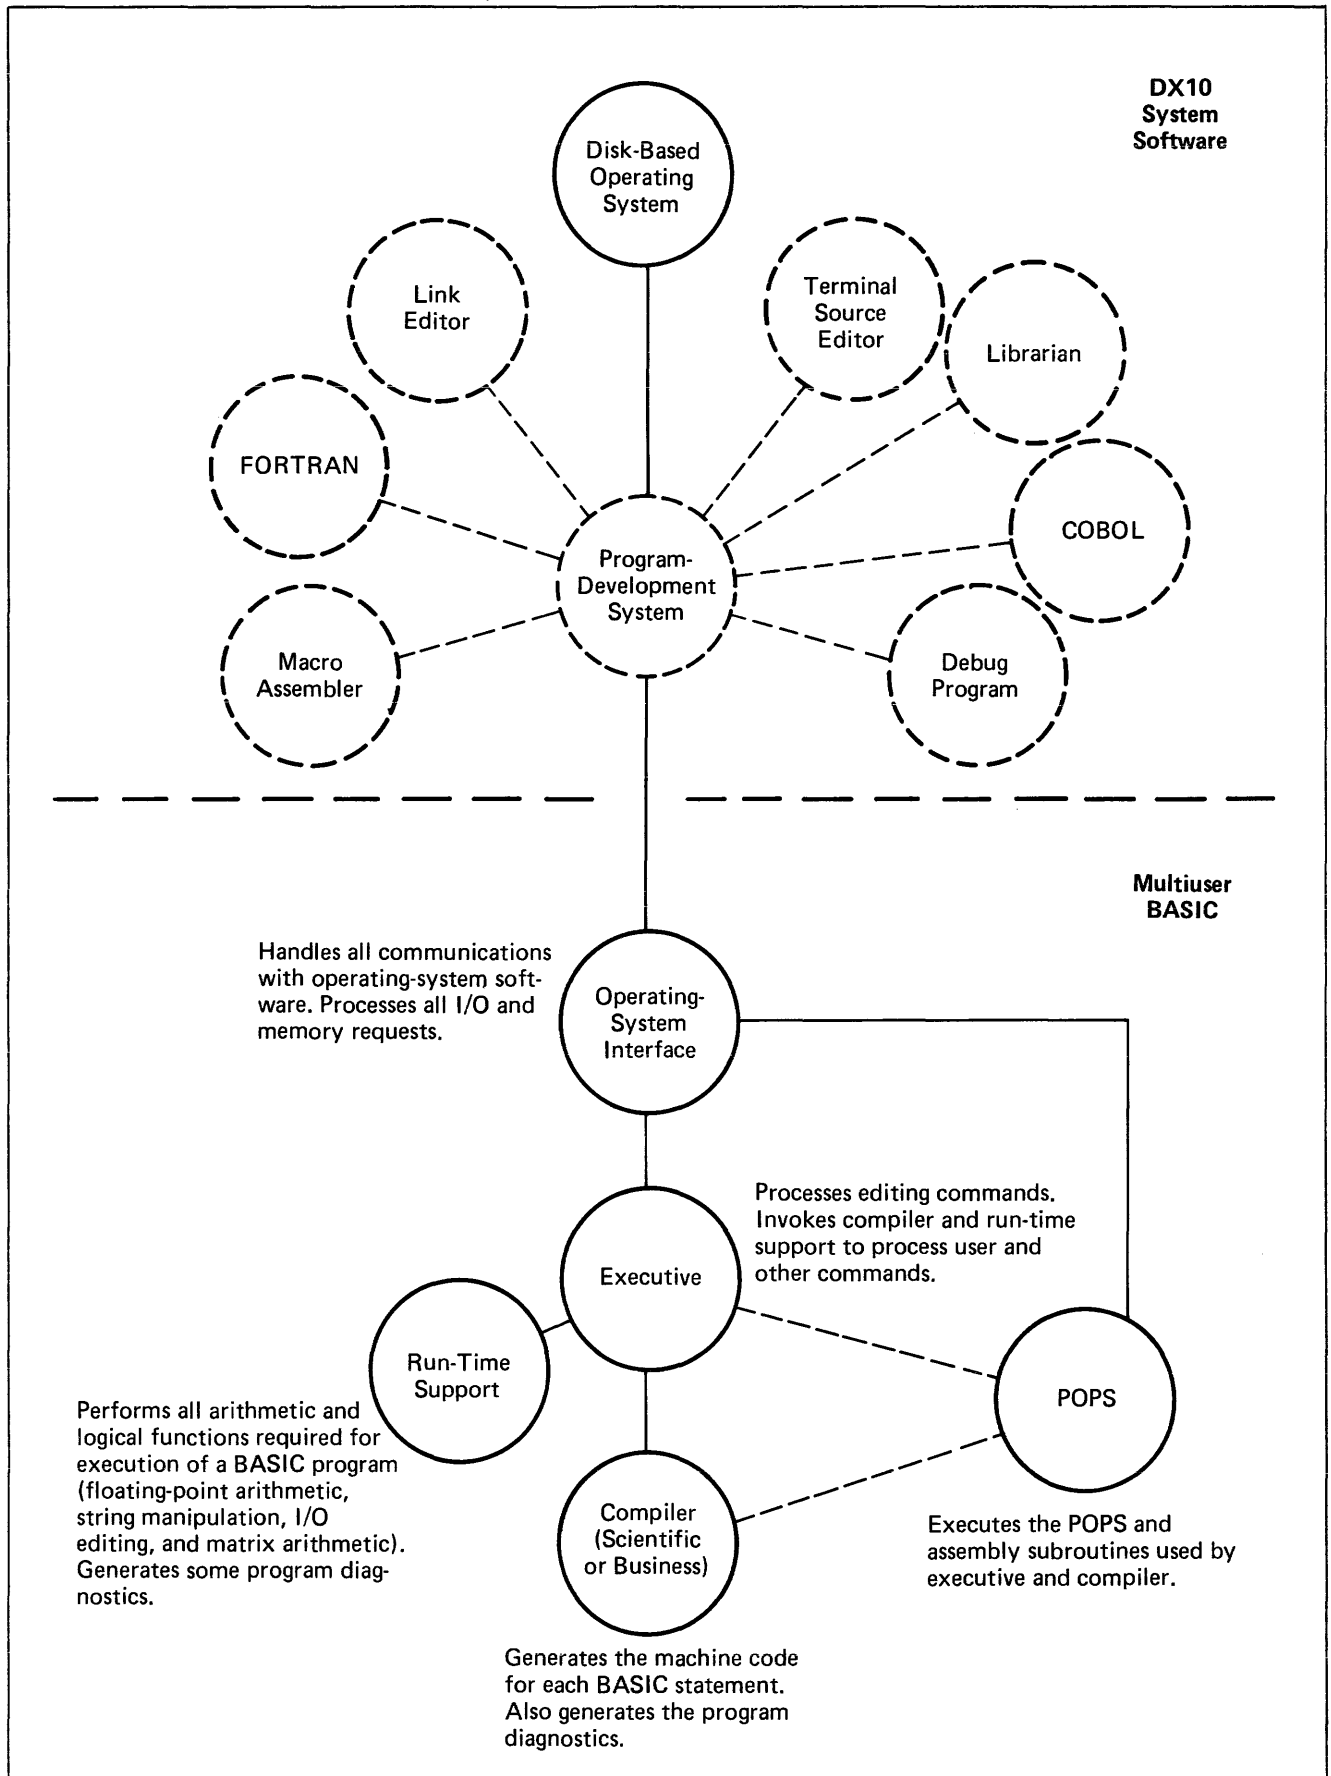

Figure 7. Multiuser BASIC Components
**Components of BASIC.** The BASIC system consists of five major components. Figure 7 shows the functional relationship of these components.